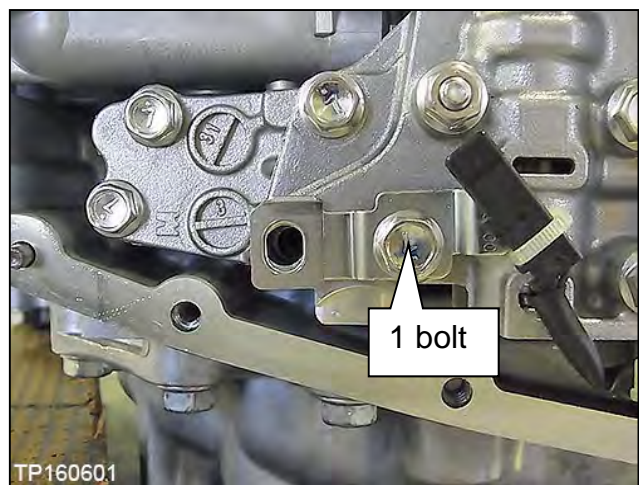

Figure 183
147. Install the CVT fluid temperature sensor bracket to the valve body with one (1) bolt (Figure 183).
**NOTE:** Leave one (1) bolt hole blank as it will be used to secure the oil strainer at a later step.